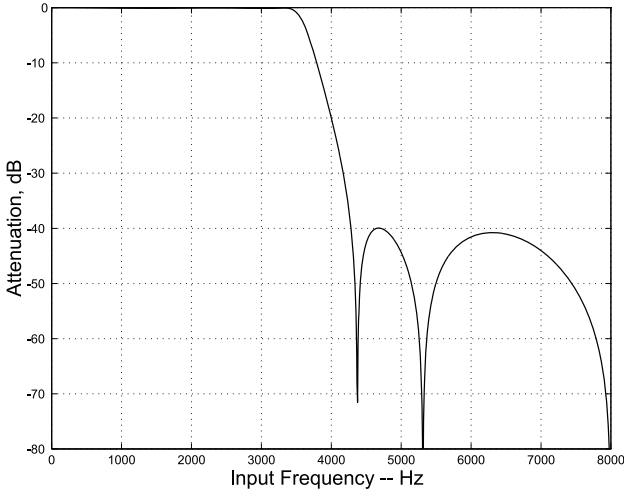
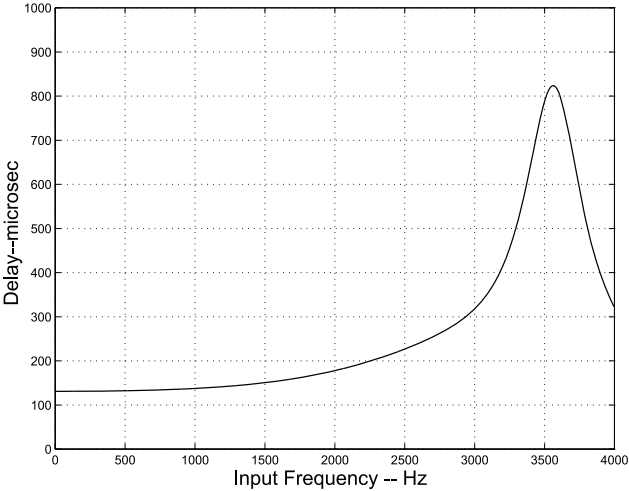

Figure 6. IIR Receive Filter Response
Figure 10. IIR Receive Group Delay
**Note:** Typical IIR filter characteristics for Fs = 8000 Hz are shown in Figures 6, 7, 8, and 9. Figures 10 and 11 show group delay versus input frequency.
For Figures 6–9, all filter plots apply to a sample rate of  $F_s = 8$  kHz.